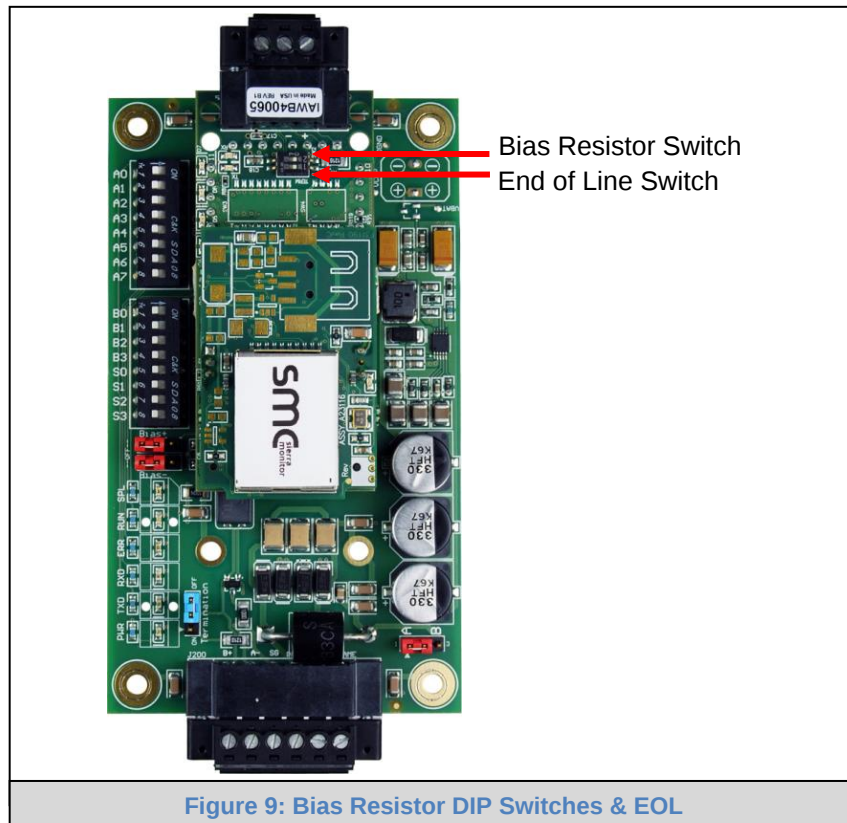

Figure 9: Bias Resistor DIP Switches & EOL
- If more than one RS-485 device is connected to the network, then the field bias resistor switch needs to be enabled to ensure proper communication. See Figure 9 for the orientation of switch positions referenced below.
- If the FieldServer is the last device on the trunk, then the end of line (EOL) termination switch needs to be enabled. See Figure 9 for the orientation of switch positions referenced below.